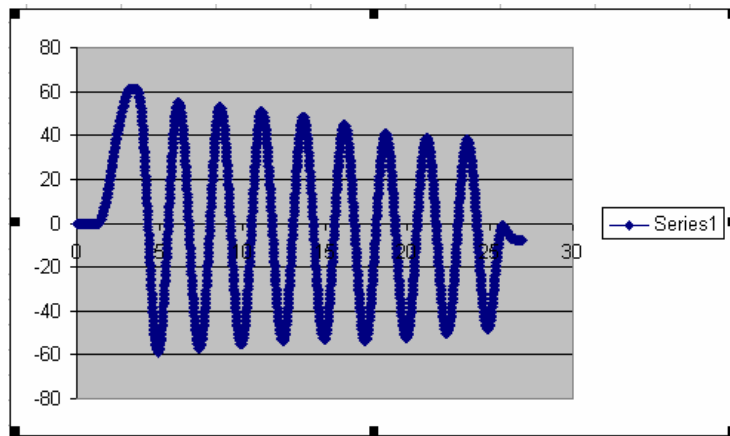

Figure 5: Excel plot of the acquired comma-delimited data
**Step 2:** From the pendulum's rest position (6 o'clock) execute the VI. Rotate the pendulum counter clockwise to approximately +60-degrees and then release. Let the VI run for about 10 seconds and then terminate the VI. Plot the data in Excel, which should look like Figure 5.